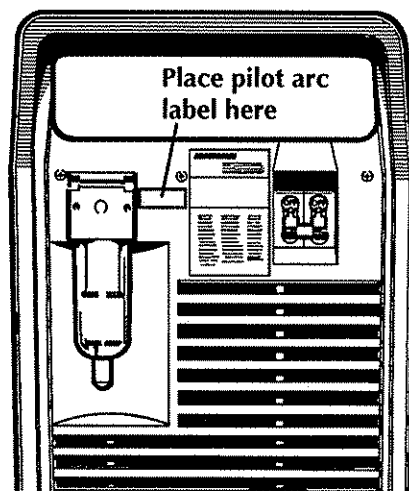

Figure 8 - Pilot Arc Label Placement
17. Place the pilot arc label as shown in Fig. 8.